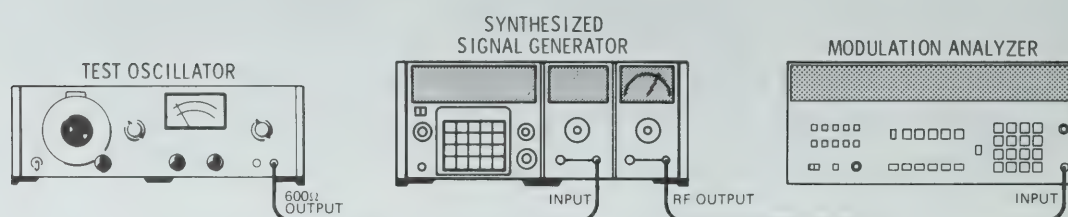

Figure 4-12. Incidental Phase Modulation Test Setup
1. Connect the equipment as shown in Figure 4-12.